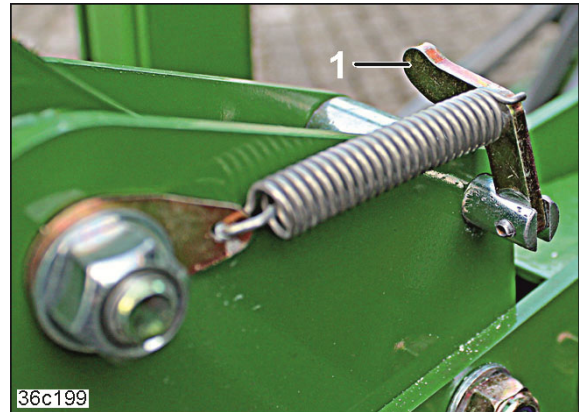

Fig. 204
3. Swivel the handle (Fig. 204/1) up.